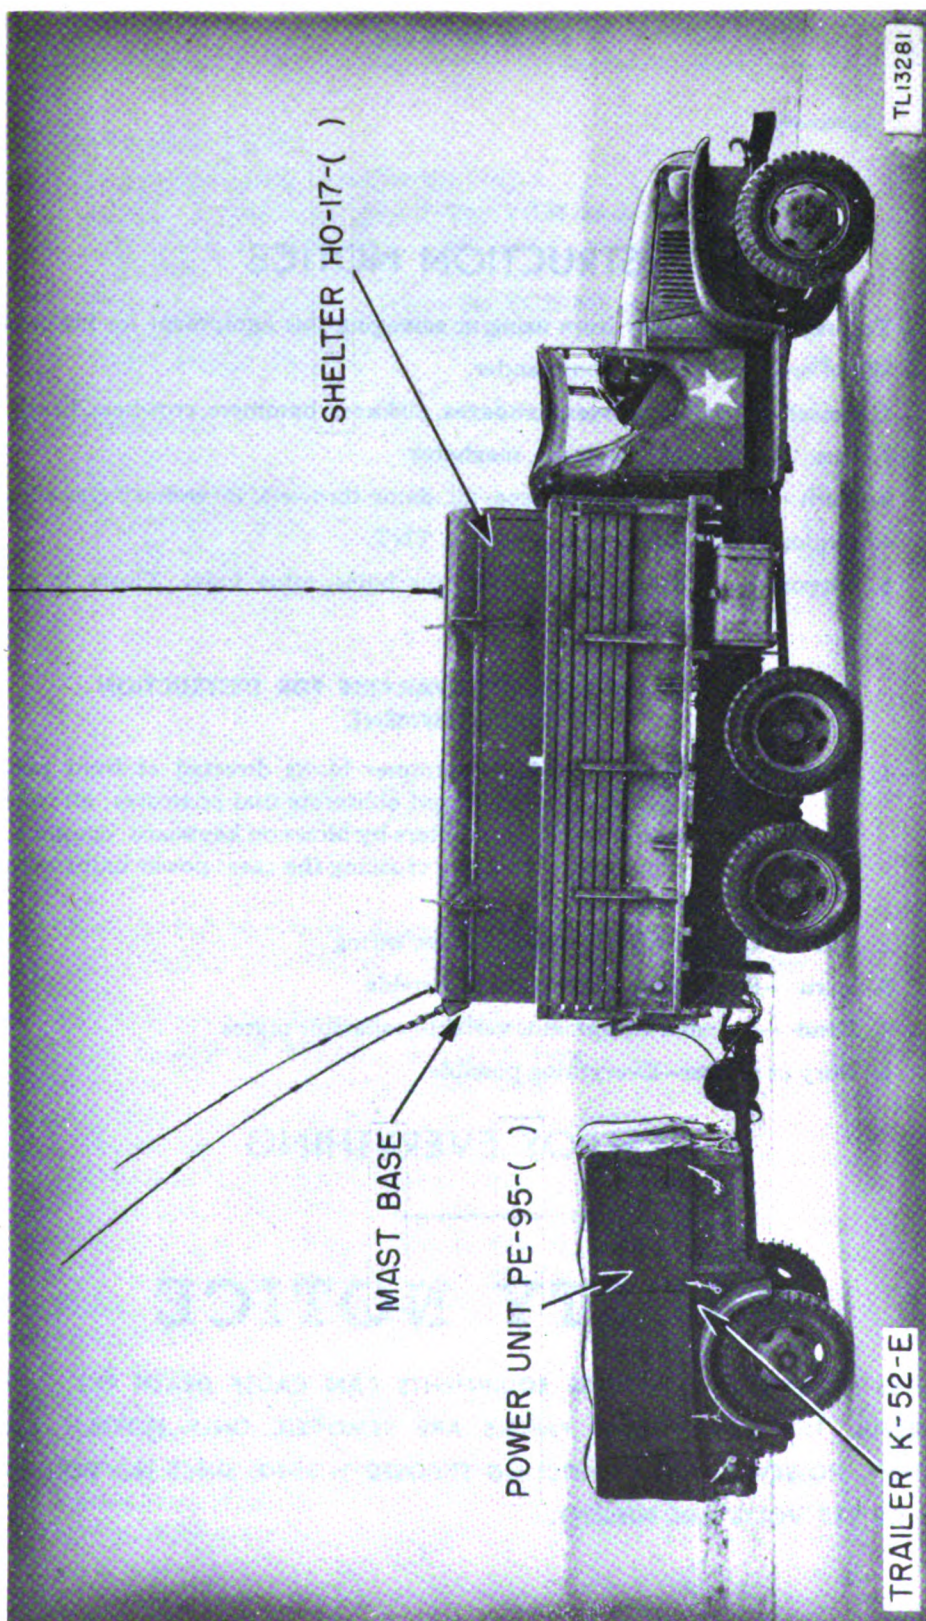
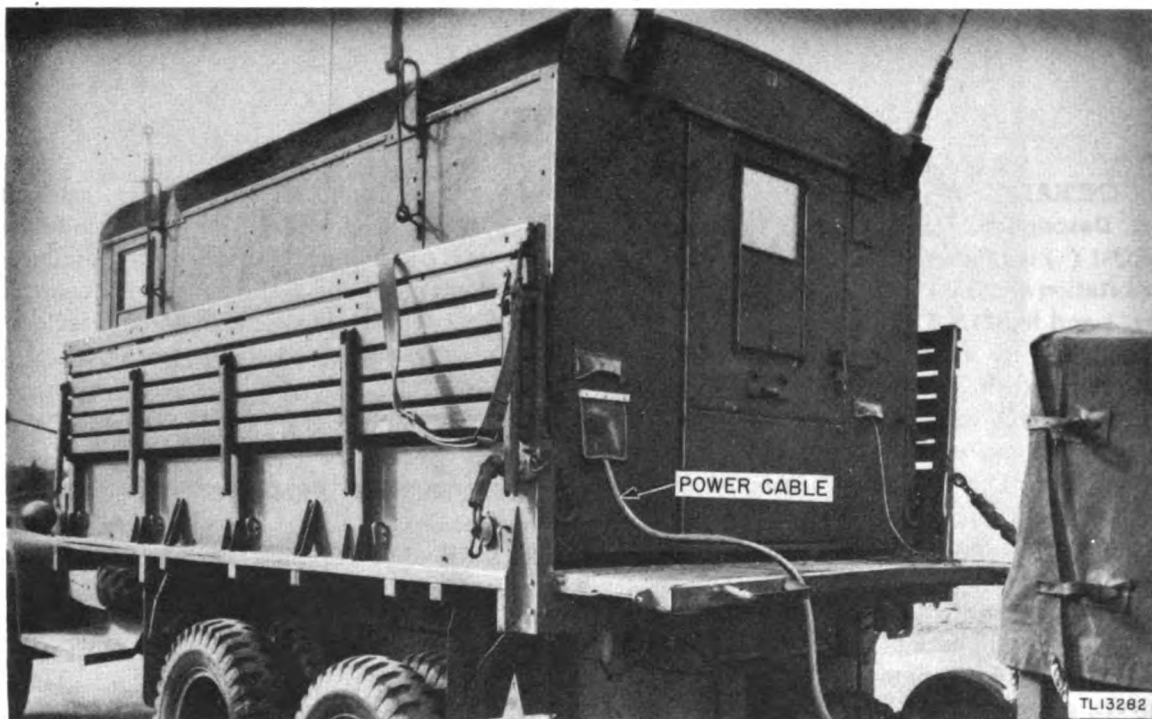

Figure 1. External view of truck and trailer, placement of whip antennas indicated.
Figure 2. Radio Control Central AN/TRQ-1 (), external view showing Shelter HO-17().
a. Description. Radio Control Central AN/TRQ-1 () is a four-position, radio-control-intercept station and is installed in Shelter HO-17-() (fig. 1 and fig. 2).^{*} The entire radio equipments and shelter are usually mounted on a 2½-ton, 6 x 6 cargo truck. The main power source for the control central equipment is Power Unit PE-95-() which is installed in Trailer K-52-E. The control central has four operating positions, each position having provision for wire communication with, and remote control of, a radio transmitting station. The transmitting station can be located anywhere within a 1-mile radius of the control central. Three of the operating positions have as required equipment, two monitoring receivers, a remote-control coupling unit, a typewriter for maintaining a log of operations and for transcribing messages, and a telegraph key. The fourth position has as its required equipment, two receivers of different design which afford more extended high-frequency coverage, a 12-position telephone switchboard with terminal facilities for eight telephone circuits, a remote-control coupling unit (similar to those at the other positions), a typewriter, a key, a receiver-transmitter unit for communication with other control centers, and a frequency meter for general utility use in all four positions (fig. 4). Other standard components of the installation are a 12-volt storage battery, a battery-charger, the 115-volt power unit mounted in a trailer (previously mentioned), a blackout interlock switch, a heater, a fan, two circuit breakers, and an Interphone Control Box BC-606-() which is connected between the trailer and truck proper, to permit control of Radio Set SCR-828-A while in motion.
b. Frequency Ranges. (1) Positions 1, 2, and 4 of the control central system monitor the frequency bands from 150 kc to 18,000 kc through the use of Radio Receivers BC-342-() and BC-344-(). Radio Receiver BC-342-() covers from 1,500 kc to 18,000 kc; Radio Receiver BC-344-() from 150 kc to 1,500 kc.
(2) Position 3 of the control central system monitors the frequency ranges from 1.25 mc to 143 mc; Radio Receiver BC-794, a Hammarlund Super-Pro, covering from 1.25 mc to 40 mc, and a Hall-crafter Model S-36 covering the ranges from 28